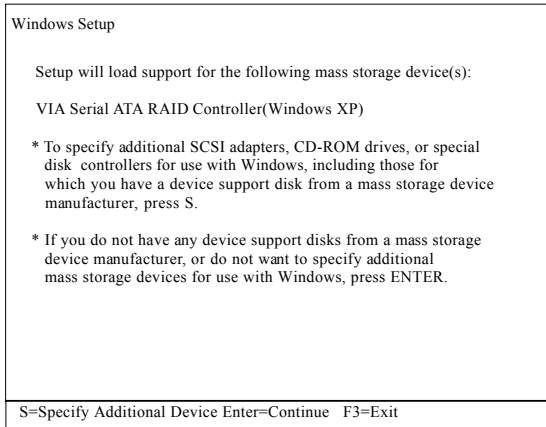

Figure 26
4. Press <Enter> (Figure 26) and system will begin to load the Serial ATA driver.